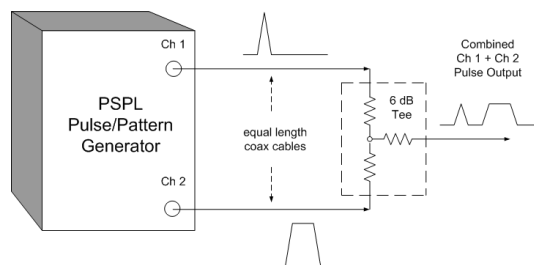
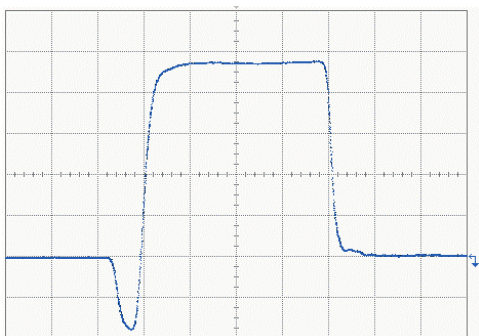

**Fig 1** Typical pulse of the Model 12020 pulse/pattern generator
**Fig. 3** Two pulses from Fig. 1 combined using a 6 dB Tee. 250 mV/div & 500 ps/div
Picosecond Pulse Labs (PSPL) has recently introduced a new 12000 series of very versatile pulse/pattern generators. The model 12000 is capable of producing adjustable rise/falltime, 10 V pulses up to 165 MHz. The model 12020 is capable of producing 2.5 V pulses at speeds up to 1.6 GHz. The oscilloscope screen image in Figure 1 below shows a couple of typical pulses illustrating the 1.6 GHz, model 12020 pulse/pattern generator's performance.
**DISTORTED PULSES:** To demonstrate what can be accomplished, we will first start with the two model 12020 pulses shown in Figure 1 on the first page. The channel 1 pulse (yellow) was programmed to be a 250 ps wide impulse with its delay set to 0 ps. The channel 2 pulse (green) was programmed to be a 2.5 V, 2 ns wide, rectangular pulse with its delay set to 1 ns. When these pulses are combined in the 6 dB Tee, the result is shown in Figure 3. At this point, we have a pulse sequence of a narrow impulse followed by a rectangular pulse. The amplitude is now 1 1/4 V.